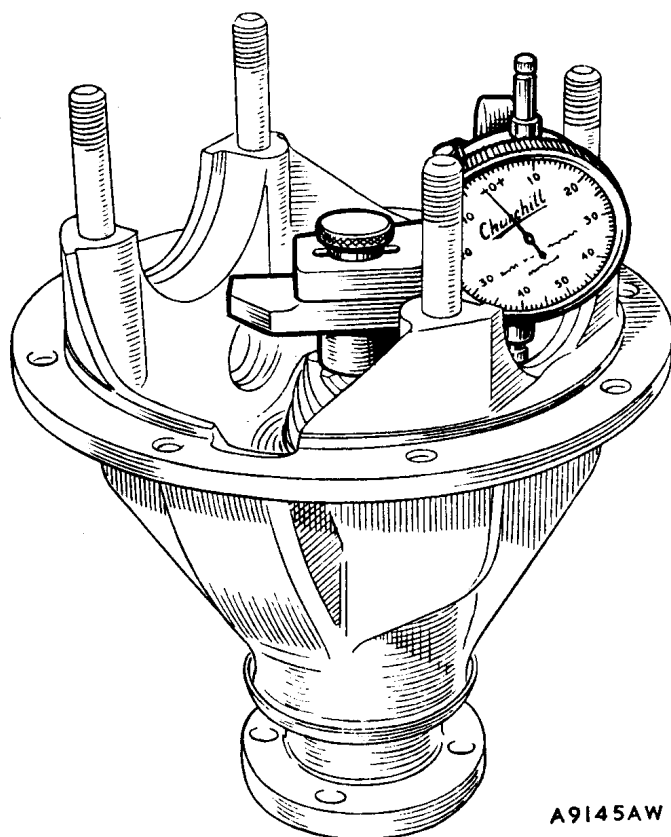

Fig. HH.4
- (1) Fit the bearing outer races to the gear carrier, using the special pinion race replacing tool.
- (2) Smooth off the pinion head with an oil-stone, but do not erase any markings that may be etched on the pinion head.
- (3) Assemble the pinion and rear bearing with a washer of known thickness behind the pinion head.
- (4) Position the pinion in the gear carrier without the bearing spacer and oil seal.
- (5) Fit the inner ring of the front bearing and the universal joint driving flange and tighten the nut gradually until a bearing preload of 8 to 10 lb. in. (.09 to .12 kg. m.) is obtained.
- (6) Remove the keep disc from the base of the magnet. Adjust the dial indicator to zero on the machined step 'A' of the setting block (Service tools 18G 191 and 18G 191 A).
- (7) Clean the pinion head and place the magnet and dial indicator in position (Fig. HH.4). Move the indicator arm until the foot of the gauge rests on